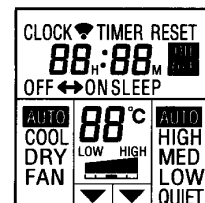

Fig. 8
⑳ **Remote Control Unit Display (Fig. 8)**